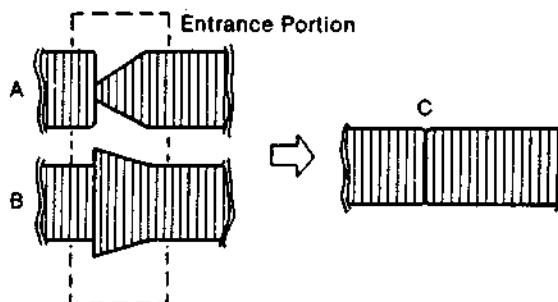

Fig. 2-19
- If a FM envelope appears like example "A" or "B" in Fig. 2-19 then adjustment of the tape guide post is necessary (P2: entrance).
- Adjust tape guide post P2 with the post adjustment screwdriver so that the FM envelope waveform at the entrance portion becomes flat as shown in Fig. 2-19.